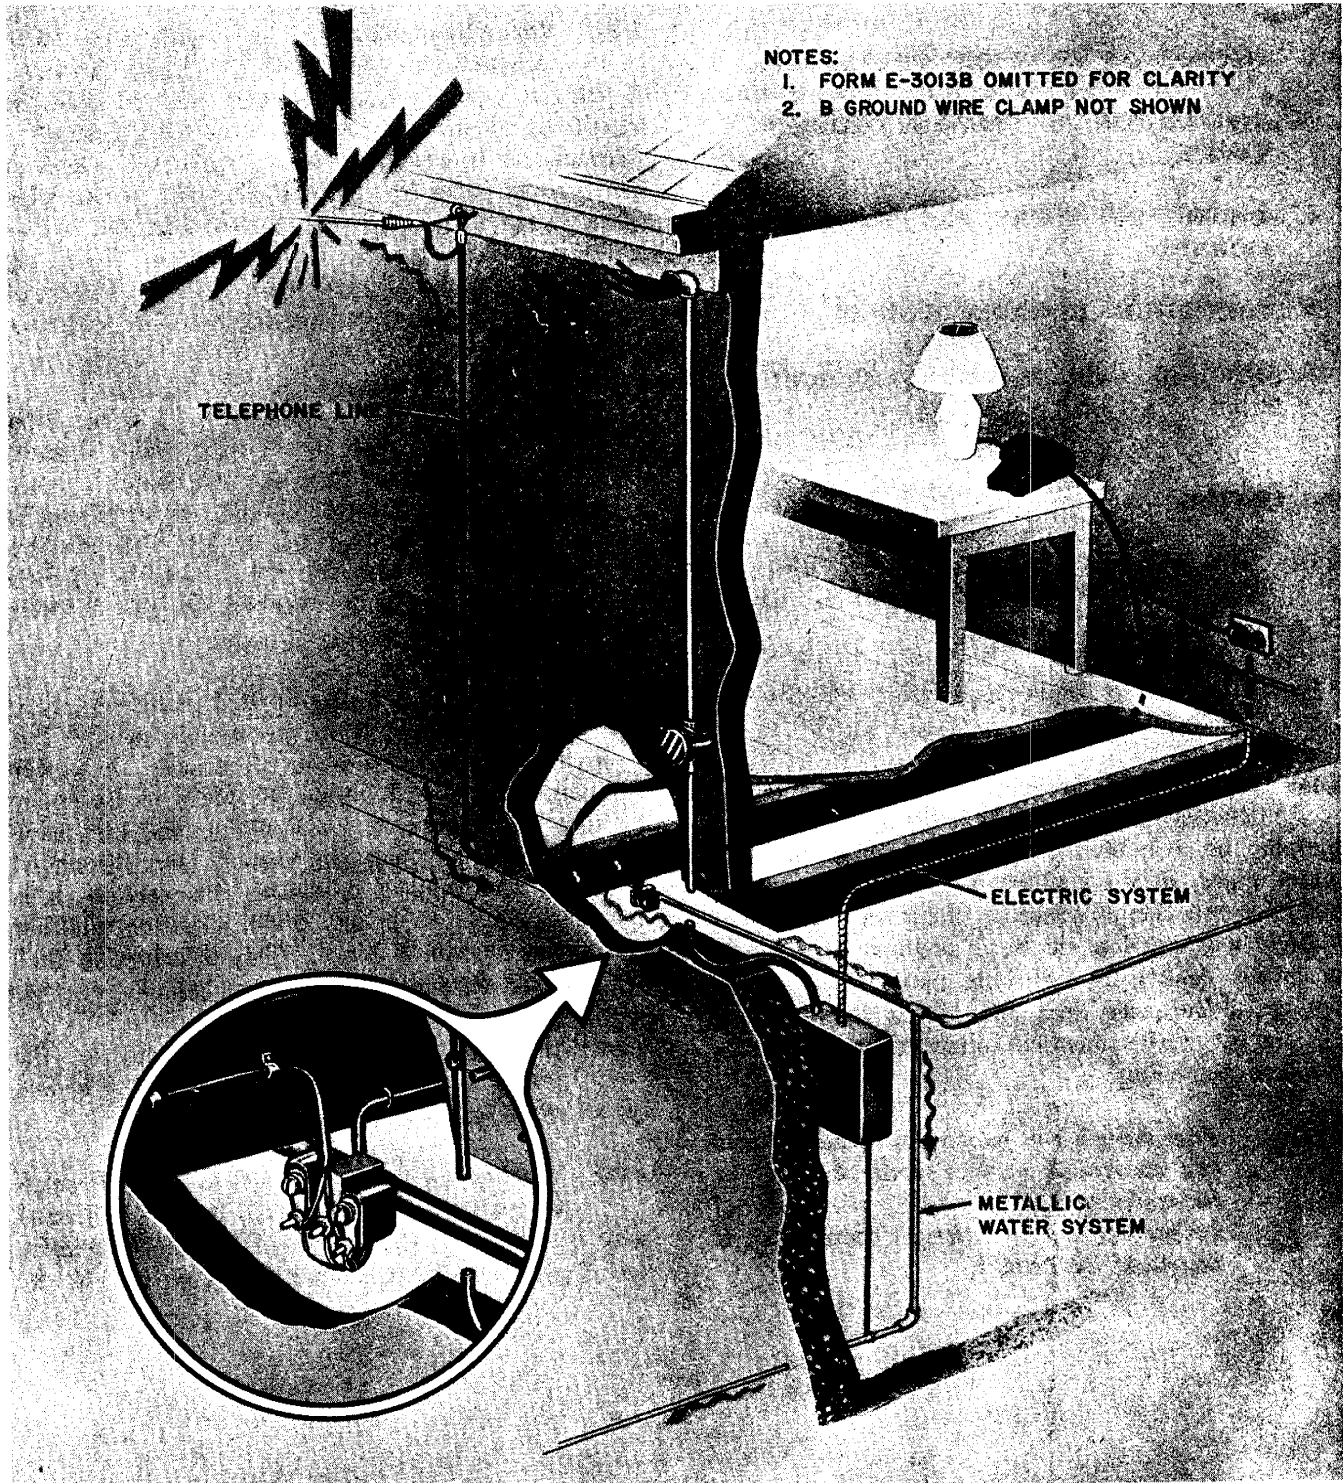

Fig. 1—Effective Ground
**1.04** On visits to previously installed stations, inspect the grounding system. Systems not properly grounded must be changed to meet the current grounding and bonding requirements. The preferred effective ground is illustrated in Fig. 1.